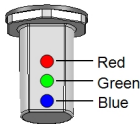

Figure 6: LEDs
- **Inverter LED indicator** (See *Figure 6*): Indicate the inverter statuses as described in the following table: